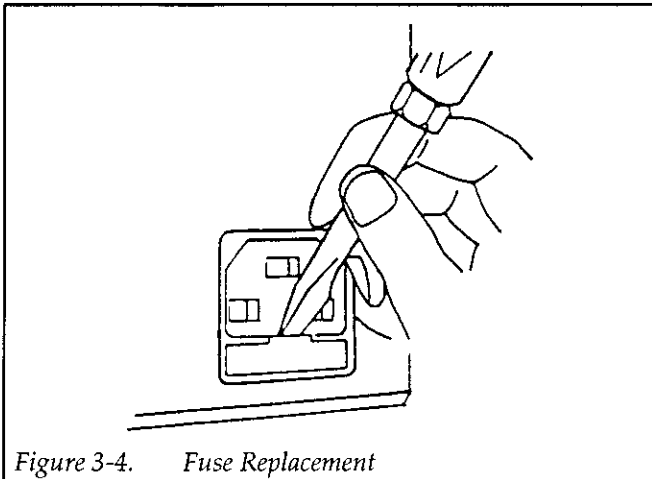

Figure 3-4. Fuse Replacement
- Using a flat-blade screw driver, pry open the fuse drawer as shown in Figure 3-4.